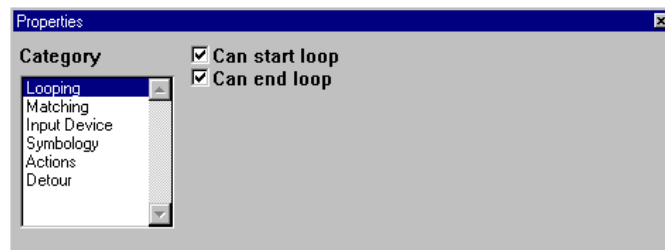

Figure 3-18 Properties Window
16. The **Properties** window opens (Figure 3-18).